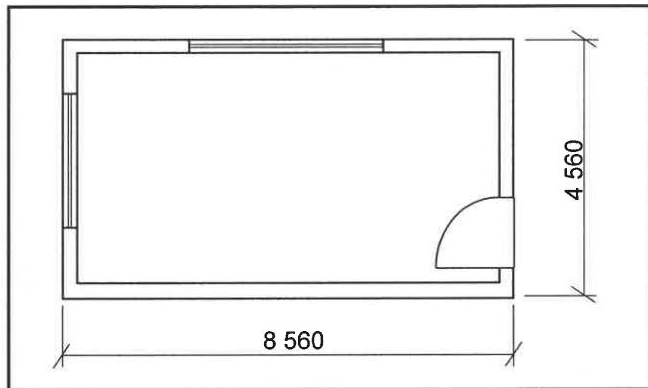

FIGURE 6.6
- 6.6 FIGURE 6.6 below shows the floor plan of a new building.